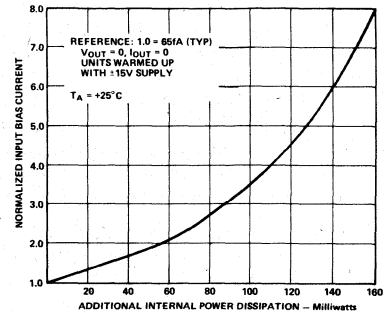

Figure 9. Input Bias Current Versus Additional Power Dissipation
3. Output loading effects, which are normally ignored, can cause a significant increase in chip temperature and therefore bias current. For example, a  $2\text{k}\Omega$  load driven at 10 volts at the output will cause at least an additional 25 milliwatts dissipation in the output stage (and some in other stages) over the typical 24 milliwatts, thereby at least doubling the effects of self-heating. The results of this form of additional power dissipation are demonstrated in Figure 9, which shows normalized input bias current versus additional power dissipated. Therefore, although many dc performance parameters are specified driving a  $2\text{k}\Omega$  load, to reduce this additional dissipation, we recommend restricting the load impedance to be at least  $10\text{k}\Omega$ .